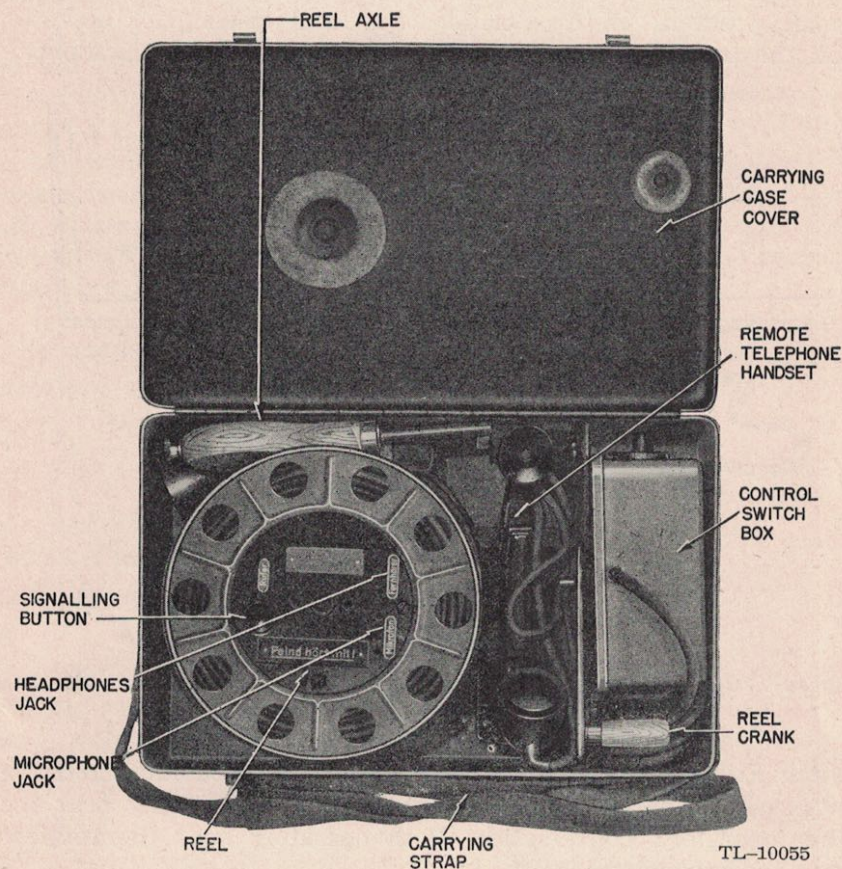

Figure 6. Remote operation equipment for German radio sets, **Torn. Fu. b1.** and **Torn. Fu. f.**, packed in case.
a. **General.** The set includes a case which contains the following equipment for remote voice operation (fig. 6).
- (1) Reel containing 50 meters (165 feet) of cable.
- (2) Reel axle for winding and unwinding reel.
- (3) Reel crank used in conjunction with the reel axle.
- (4) Control switch box used at the transmitter location.
- (5) Remote telephone handset.
b. **Installation.** (1) The control switch box is located at the transmitter and is connected to the five-contact jack on the set marked **Fernbesprechung** (remote control jack) by the five-contact plug on the switch box.